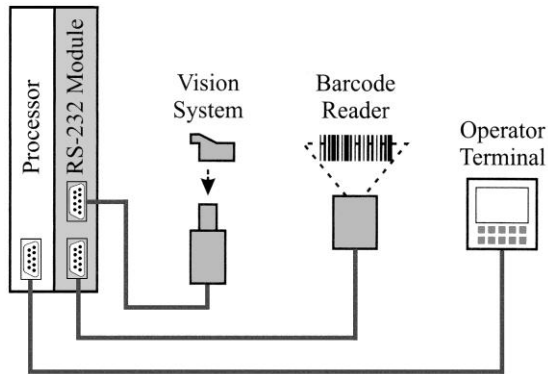

Figure 14-5 Communication connections for question 41.
41. Figure 14-5 illustrates implementation of ____ type communication connections.